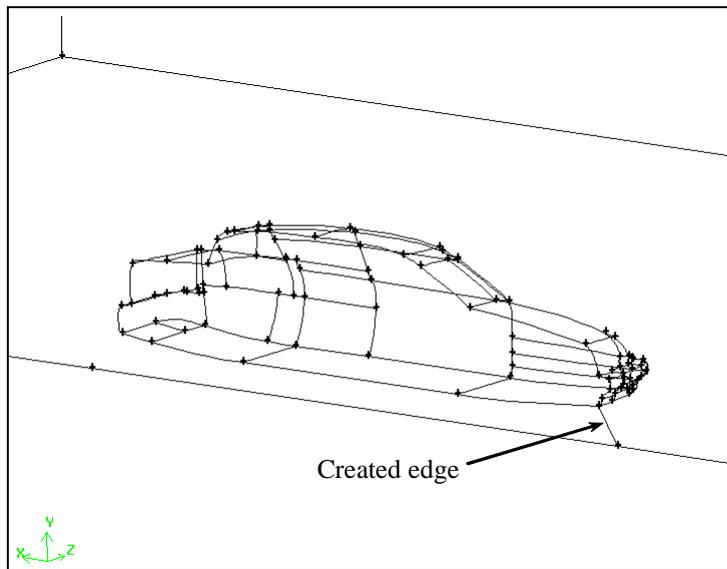

Figure 5-19: Edge from bottom of symmetry plane to front of sedan
- b) Zoom in to the front of the sedan, so that you can see the front bumper and the first vertex created on the edge at the bottom of the symmetry plane, as shown in Figure 5-19.
- d) *Shift-left-click* the vertex on the sedan that is also on the symmetry plane, as shown in Figure 5-19.
- e) Click **Apply** to accept the selected vertices and create an edge, as shown in Figure 5-19.